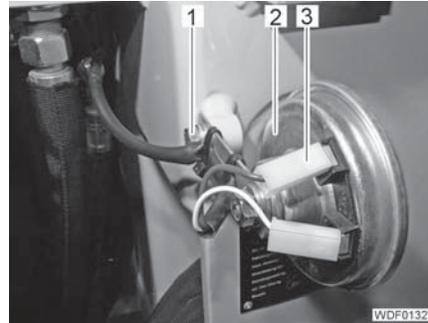

Fig. 462 Horn
- Unscrew the screw (Fig. 462,1).
- Remove the 2 plugs (Fig. 462,3) from the horn (Fig. 462,2).
- Connect the 2 plugs (Fig. 462,3) to the new horn.
- Screw in and tighten the screw (Fig. 462,1) with the spring lock washer and washer.